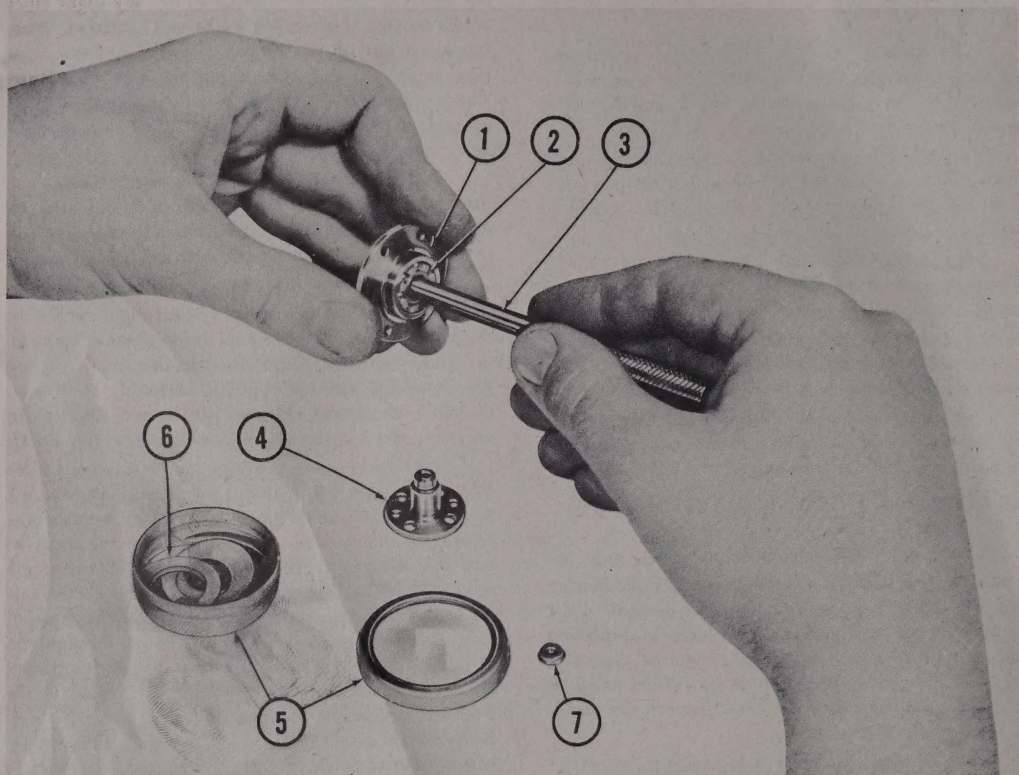

Figure 184 — Checking Bearings for Fit
(c) (See figure 184.) Before bearings are cleaned, they should be checked for fit of the outer race in the socket (1) or bore into which the bearing is to fit. Test fit in one position; then turn bearing over and